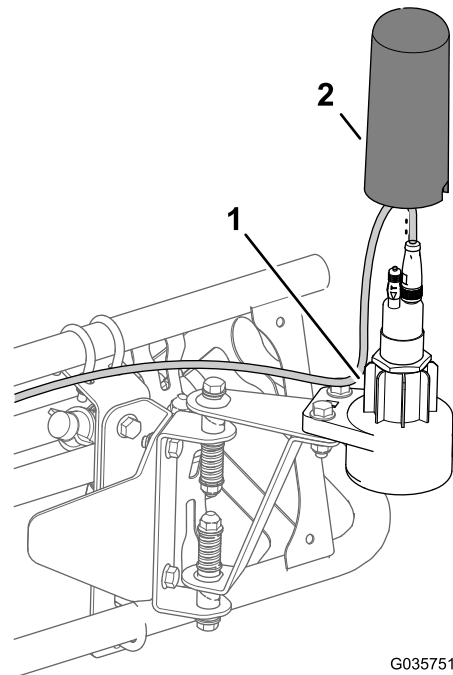

Figure 25
4. Install the upper housing over the sensor and onto the lower housing (Figure 25).